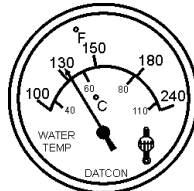

Figure 50. Coolant Temperature Gauge
12. The **coolant temperature gauge** (Figure 50) will indicate the coolant temperature. Under normal operating conditions the coolant temperature should be between 167°~203°F (75°~95°C) (**Green Zone**).